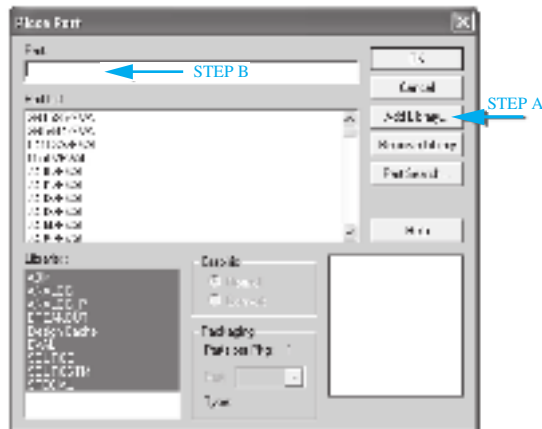
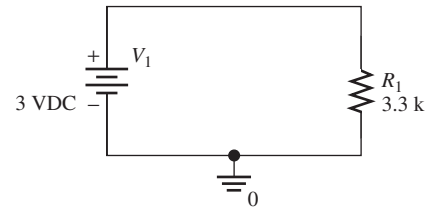

FIGURE 2.63 Place Part and Add Library.
FIGURE 2.64 PSpice schematic circuit for Example 2.12.
1. Select "Place" > "Part" or click on the icon . A window (as shown in Figure 2.63) will pop up.
2. The electronic parts are stored in a specific library file. Therefore, the library files are required to load into the Parts Database and search and place the particular electronic parts on the PSpice circuit board. To place the parts, choose Add Library (STEP A in Figure 2.63) and highlight all of the files of "StdLib" to add all of the "Lib/*" files into the library.
3. Continuing with Example 2.12, to add a DC voltage source, type “Vdc” in the Part column (STEP B in Figure 2.63) and then click OK. Place the “Vdc” icon as shown in Figure 2.64, and then right click and choose “End Mode.” *Press “r” to change the orientation or direction of the voltage source.*
5. To place a resistor on the circuit board, go to “Place” > “Part” and type “R” in the Part column, then click OK. (Note: be sure to use R/analog and not R/discrete.) Place the resistor, “R1” as shown in Figure 2.64. *Press “r” to change the orientation of the resistor.*
12. A window that is similar to Place Part (Figure 2.63) will pop up. Choose add library, and choose source.olb/source.lib to add the ground into the library. Next, choose “0/Source” and place it as shown in Figure 2.64. Note: Always either press “Esc” or right click and choose “End” to complete the insertion.
13. You should be cautious not to choose and place any parts in the list of Figure 2.63 that have the suffix “Design Cache,” that is, called “*partname*/Design Cache” in the PSpice circuit board. PSpice is unable to run any simulation analysis with those components.